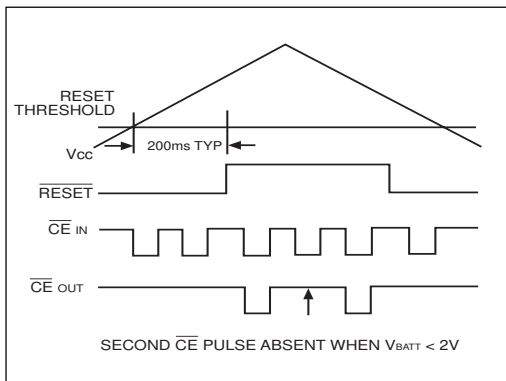

Figure 11. Backup-Battery Monitor Timing Diagram
The **SP791** low-battery voltage function monitors  $V_{BATT}$ . Low-battery detection of  $2.0V \pm 0.15V$  is monitored only during the reset-timeout period (200ms) that occurs either after a normal power-up sequence or after the  $\overline{MR}$  reset input has been returned to its high state. If the battery voltage is below 2.0V, the second CE pulse is inhibited after reset timeout. If the battery voltage is above 2.0V, all CE pulses are allowed through the CE gate after the reset timeout period. To use this function, after the 200ms reset delay, write 00 (HEX) to a location using the first CE pulse, and write FF (HEX) to the same location using the second CE pulse following  $\overline{RESET}$  going inactive on power-up. The contents of the memory then indicates a good battery (FF) or a low battery (00), *Figure 11*.